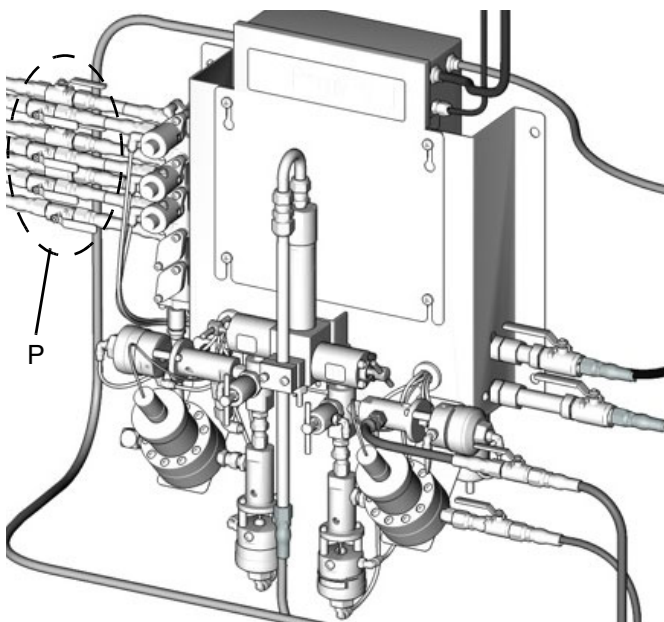

FIG. 6
To reduce the risk of injury, including skin injection, you must install a shutoff valve (P) between each fluid supply line and the fluid manifold assembly. FIG. 6. Use the valves to shut off fluid during maintenance and service.